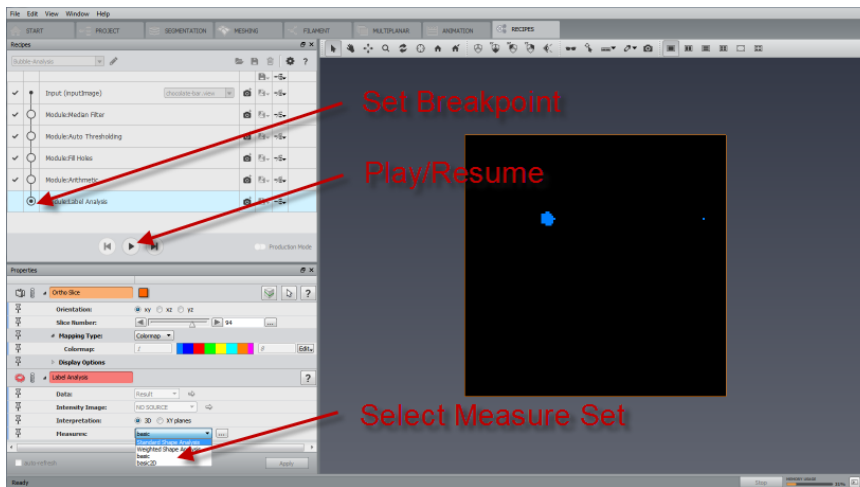

Figure 15.11: Continue a Recipe After Modifications
- Run the recipe until it reaches the breakpoint. At this stage, it is not possible to change the input data or to quit the *Recipes* workroom. Only the properties of the tool are available for change. In port *Measures*, select *Standard Shape Analysis*. Click *Play* to continue (see Figure 15.11).